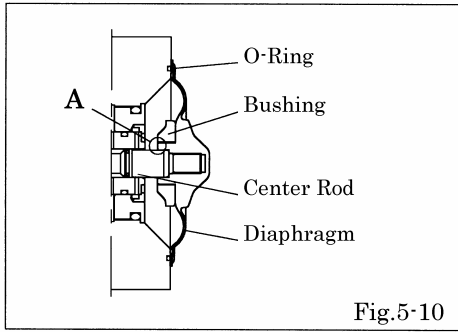

Fig.5-10
- * Attach the bushing onto the diaphragm. [Fig.5-10]
- * Attach the diaphragm by turning it until its level difference with the center rod of the section A becomes even. [Fig.5-10]